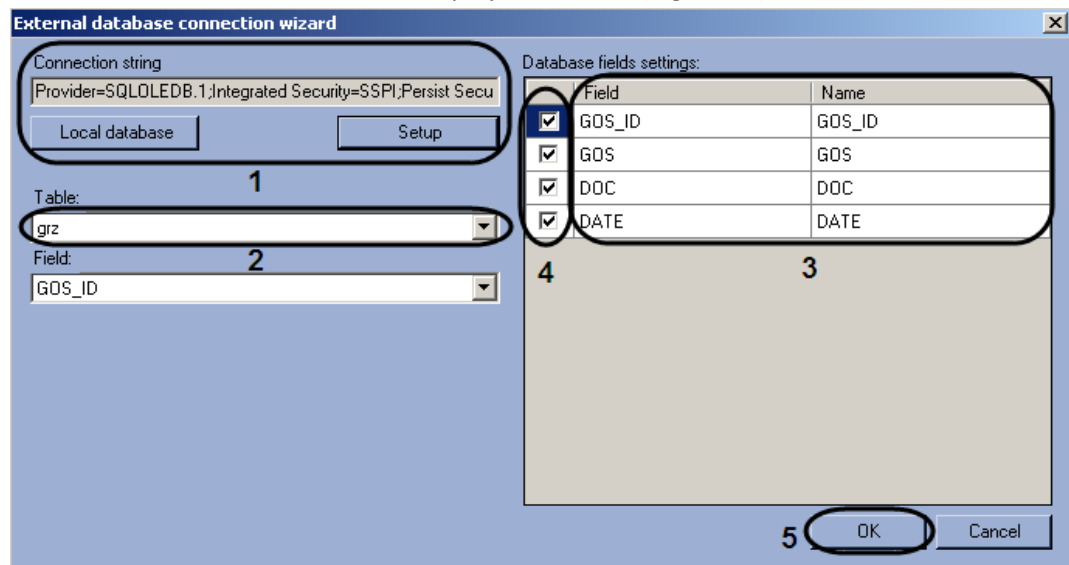

Fig. 7.5-9 Processing the table DB fields settings
4. External DB connection wizard will be displayed in result (Fig. 7.5-9).
5. Set the connection string to the External DB (Fig. 7.5-9, 1), then select from the table list the table, containing vehicle plates (Fig. 7.5-9, 2) (see steps 5-7 in the section External DB connection).
6. A list of columns in the selected table will be displayed in the table «DB fields settings» in result (Fig. 7.5-9, 3).
7. Enter the corresponding to column names that will be displayed in the interface window Vehicle tracer in the column Name » (Fig. 7.5-9, 3).
8. Select check boxes opposite the lines fields of which should be displayed in Vehicle detection module interface (Fig. 7.5-9, 4).
9. Click OK to save the applied changes and closing the dialog window External DB connection wizard (Fig. 7.5-9, 5).
*Note. Click cancel to close the window External DB connection wizard without saving the changes (Fig. 7.5-9).*